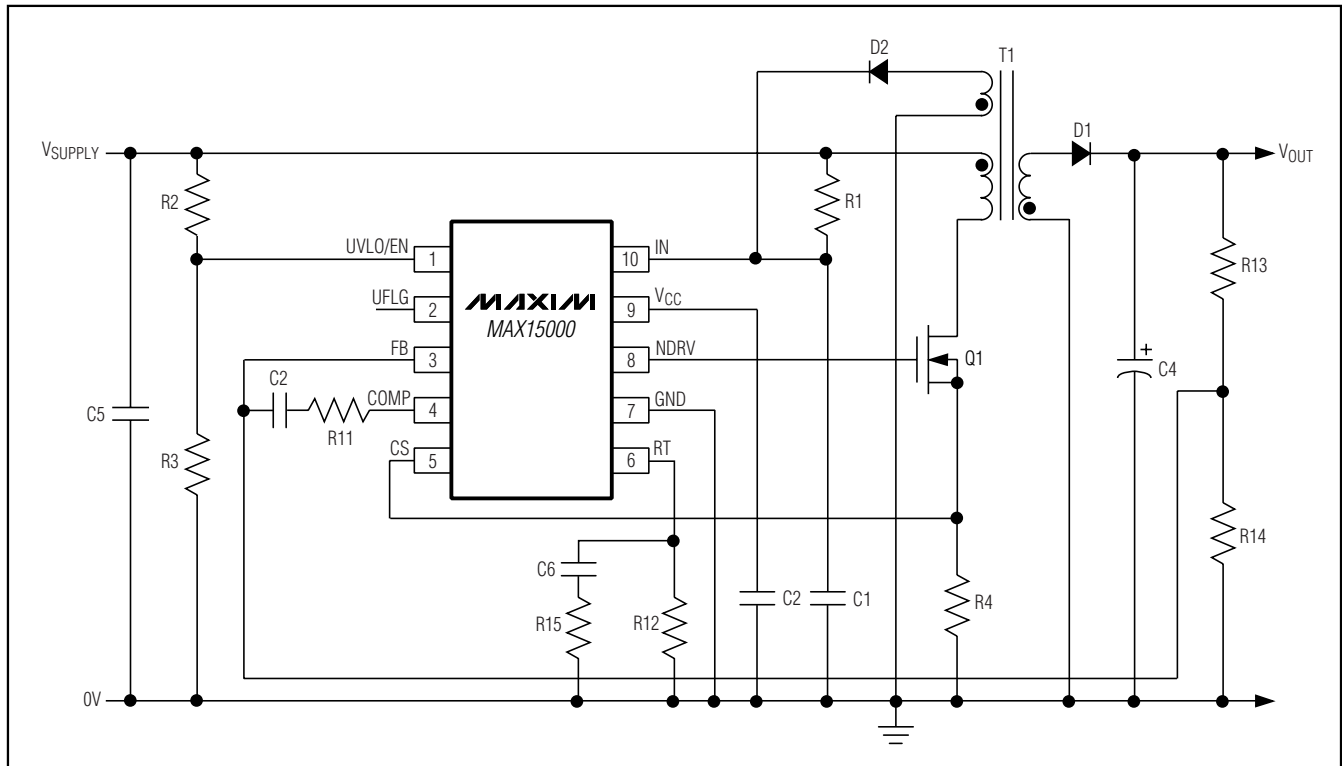
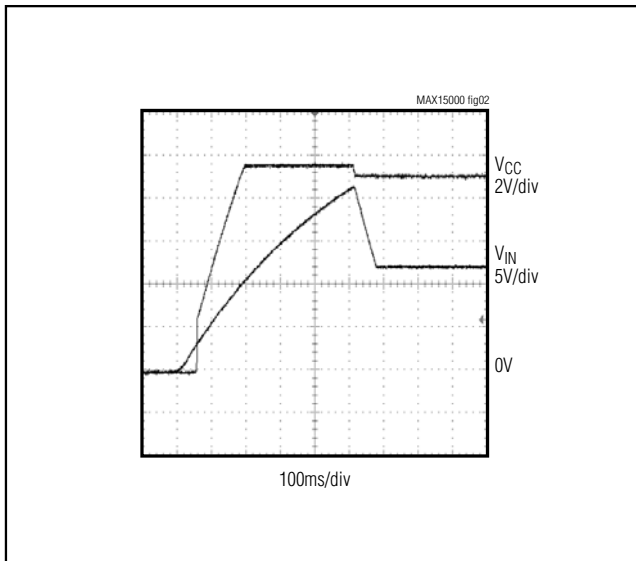

Figure 1. Nonisolated Power Supply with Programmable Input-Supply Start Voltage
Figure 2. V_{IN} and V_{CC} During Startup When Using the MAX15000 in Bootstrapped Mode (Figure 1)
- Note 2:** The MAX15000 is intended for use in universal input power supplies. The internal clamp circuit at IN is used to prevent the bootstrap capacitor (C1 in Figure 1) from charging to a voltage beyond the absolute maximum rating of the device when UVLO/EN is low (shutdown mode). Externally limit the maximum current to IN (hence to clamp) to 2mA maximum when UVLO/EN is low. Clamp currents higher than 2mA may result in a clamp voltage higher than 30V, thus exceeding the absolute maximum rating for IN. For the MAX15001, do not exceed the 24V maximum operating voltage of the device.
Characteristics table). The input is clamped when the devices are started with a bleed resistor (R1 in Figure 1) from a high input voltage and the UVLO/EN input is low. The clamp can safely sink up to 2mA current.
Power supplies designed with the MAX15000 use a high-value startup resistor R1 that charges a reservoir capacitor C1 (see Figure 1). During this initial period, while the voltage is less than the internal bootstrap UVLO threshold, the device typically consumes only 50 μ A of quiescent current. This low startup current and the large bootstrap UVLO hysteresis help to minimize the power dissipation across R1 even at the high end of the universal AC input voltage (265VAC).
Use this UVLO/EN input to program the input-supply start voltage. For example, a reasonable start voltage for a 36V to 72V telecom range is usually 34V. Calculate the resistor-divider values, R2 and R3 (see Figure 1) by using the following formulas:
For the MAX15000, the voltage at IN is normally derived from a tertiary winding of the transformer. However, at startup there is no energy being delivered through the transformer, hence, a special bootstrap sequence is required. Figure 2 shows the voltages at IN and V_{CC} during startup. Initially, both V_{IN} and V_{CC} are 0V. After the line voltage is applied, C1 charges through the startup resistor, R1, to an intermediate voltage. At this point, the internal regulator begins charging C2 (see Figure 1). Only 50 μ A of the current supplied through R1 is used by the MAX15000, the remaining input current charges C1 and C2. The charging of C2 stops when the V_{CC} voltage reaches approximately 9.5V, while the voltage across C1 continues rising until it reaches the wake-up level of 21.6V. Once V_{IN} exceeds the bootstrap UVLO threshold, NDRV begins switching the MOSFET and transfers energy to the secondary and tertiary outputs. If the voltage on the tertiary output builds to higher than 9.74V (the bootstrap UVLO lower
The MAX15000A/MAX15001A and MAX15000B/MAX15001B have programmable output switching frequencies from 25kHz to 625kHz and 12.5kHz to 625kHz, respectively. Use the following formulas to determine the appropriate value of the resistor R_{12} (see Figure 1) needed to generate the desired output switching frequency (f_{SW}) at the NDRV output:
where R_{12} is the resistor connected from R_T to GND (see Figure 1).
Connect an RC network in parallel with R_{12} as shown in Figure 1. The RC network should consist of a 100nF capacitor C_6 (for stability) in series with resistor R_{15} which serves to further minimize jitter. Use the following formula to determine the value of R_{15} :
The MAX15000/MAX15001 include an internal error amplifier to regulate the output voltage in the case of a nonisolated power supply (see Figure 1). For the circuit in Figure 1, calculate the output voltage using the following equation:
The current-sense resistor (R4 in Figure 1), connected between the source of the MOSFET and ground, sets the current limit. The current-limit comparator has a voltage trip level (V_{CS}) of 1V. Use the following equation to calculate the value of R4:
The bypass capacitor at IN, C1, supplies current immediately after the MAX15000 wakes up (see Figure 1). The size of C1 and the connection configuration of the tertiary winding determine the number of cycles available for startup. Large values of C1 increase the startup time but also supply gate charge for more cycles during initial startup. If the value of C1 is too small, V_{IN} drops below 9.74V because NDRV does not have enough time to switch and build up sufficient voltage across the tertiary output which powers the device. The device goes back into UVLO and does not start. Use a low-leakage capacitor for C1 and C2.